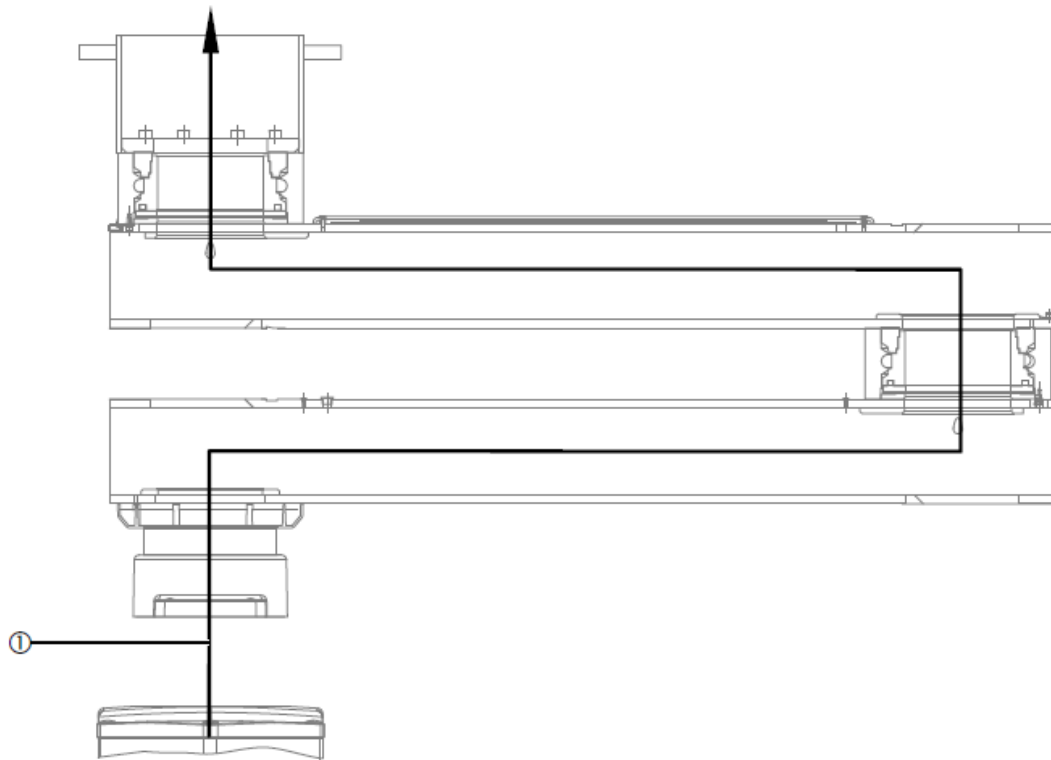

Fig. 47 Routing of the air brake power cable
- Route the power cable ① (in a spiral coiled tube if necessary) through the pendant system and into the interface plate as shown in Figure 47.